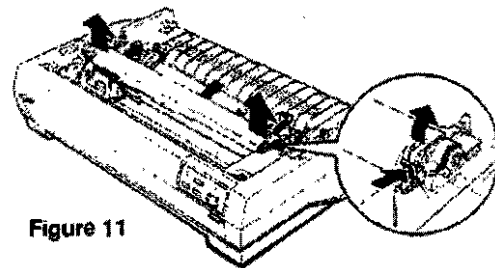

Figure 11
2. Grasp the tabs at the front of each side of the paper-tension unit as shown below. Press up firmly with your thumbs to lift the front of the unit; then pull the paper-tension unit up and off the printer (Figure 11).